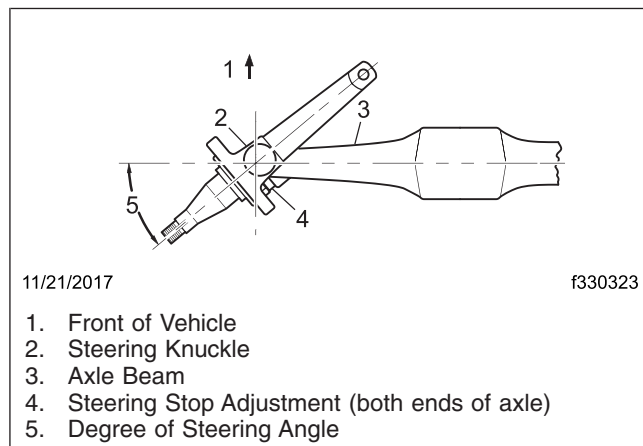

Fig. 28, Steering Stop Adjustment
1. Check the vehicle workshop manual to determine the correct steering stop angle. See Fig. 28.